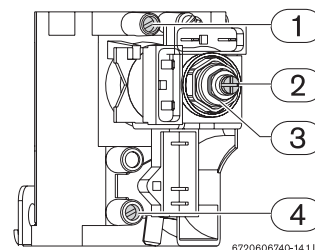

Fig. 3 Pressure measuring points
- ▶ Using the adjuster (Fig. 3, pos. 3) regulate the pressure to achieve the values indicated in table 1.
- ▶ Using the adjuster screw (Fig. 3, pos. 2) regulate the pressure to the values indicated in table 1.